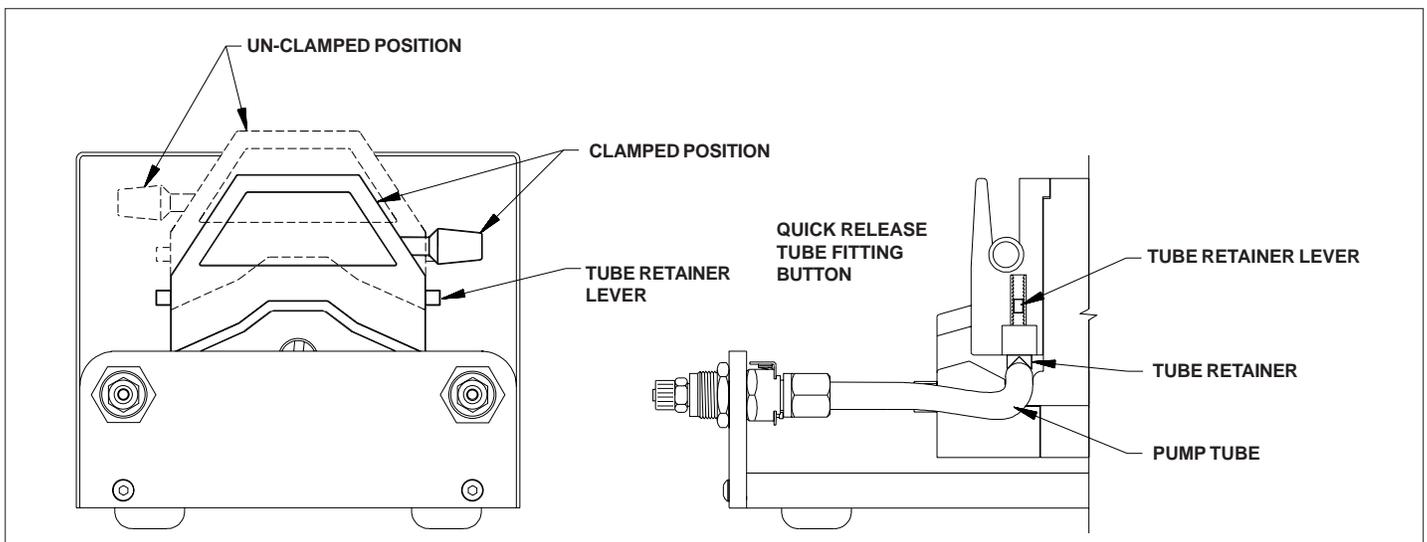

FIGURE 14
- 2 - Rotate the lever on the Pump Head to the left (CCW) to un-clamp the tube (See Figure 14).
- 5 - Slowly rotate the Pump Head Lever to the right (CW) and ensure that the Pump Tube is centered under the V- Shaped Pump Tube Retainers on either side of the Pump Head. When the Pump Head Lever is in the fully **“CLAMPED”** position, the operation is complete.